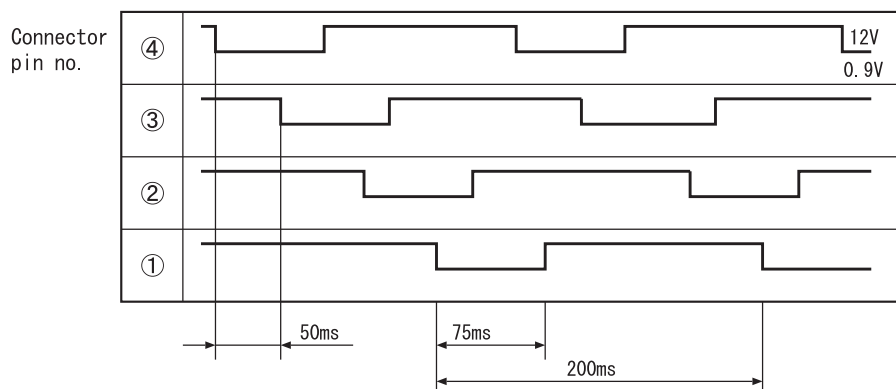

Fig. 5-2
- Relationship between power switching direction of phase and open/close direction is shown below. When power is supplied, voltages at pins ④ to ① of CN15 are about 0.9V and 12V when no power is supplied. When power is reset, initial operation is performed for 10 or 20 seconds. During initial operation, measure all voltages at pin ④ to ① of CN15 by using a multimeter. If there is any pin with voltage that has not changed from 0.9V or 12V, expansion valve or microcomputer is broken.
- Fig.5-2 shows logic waveform when expansion valve is operating.